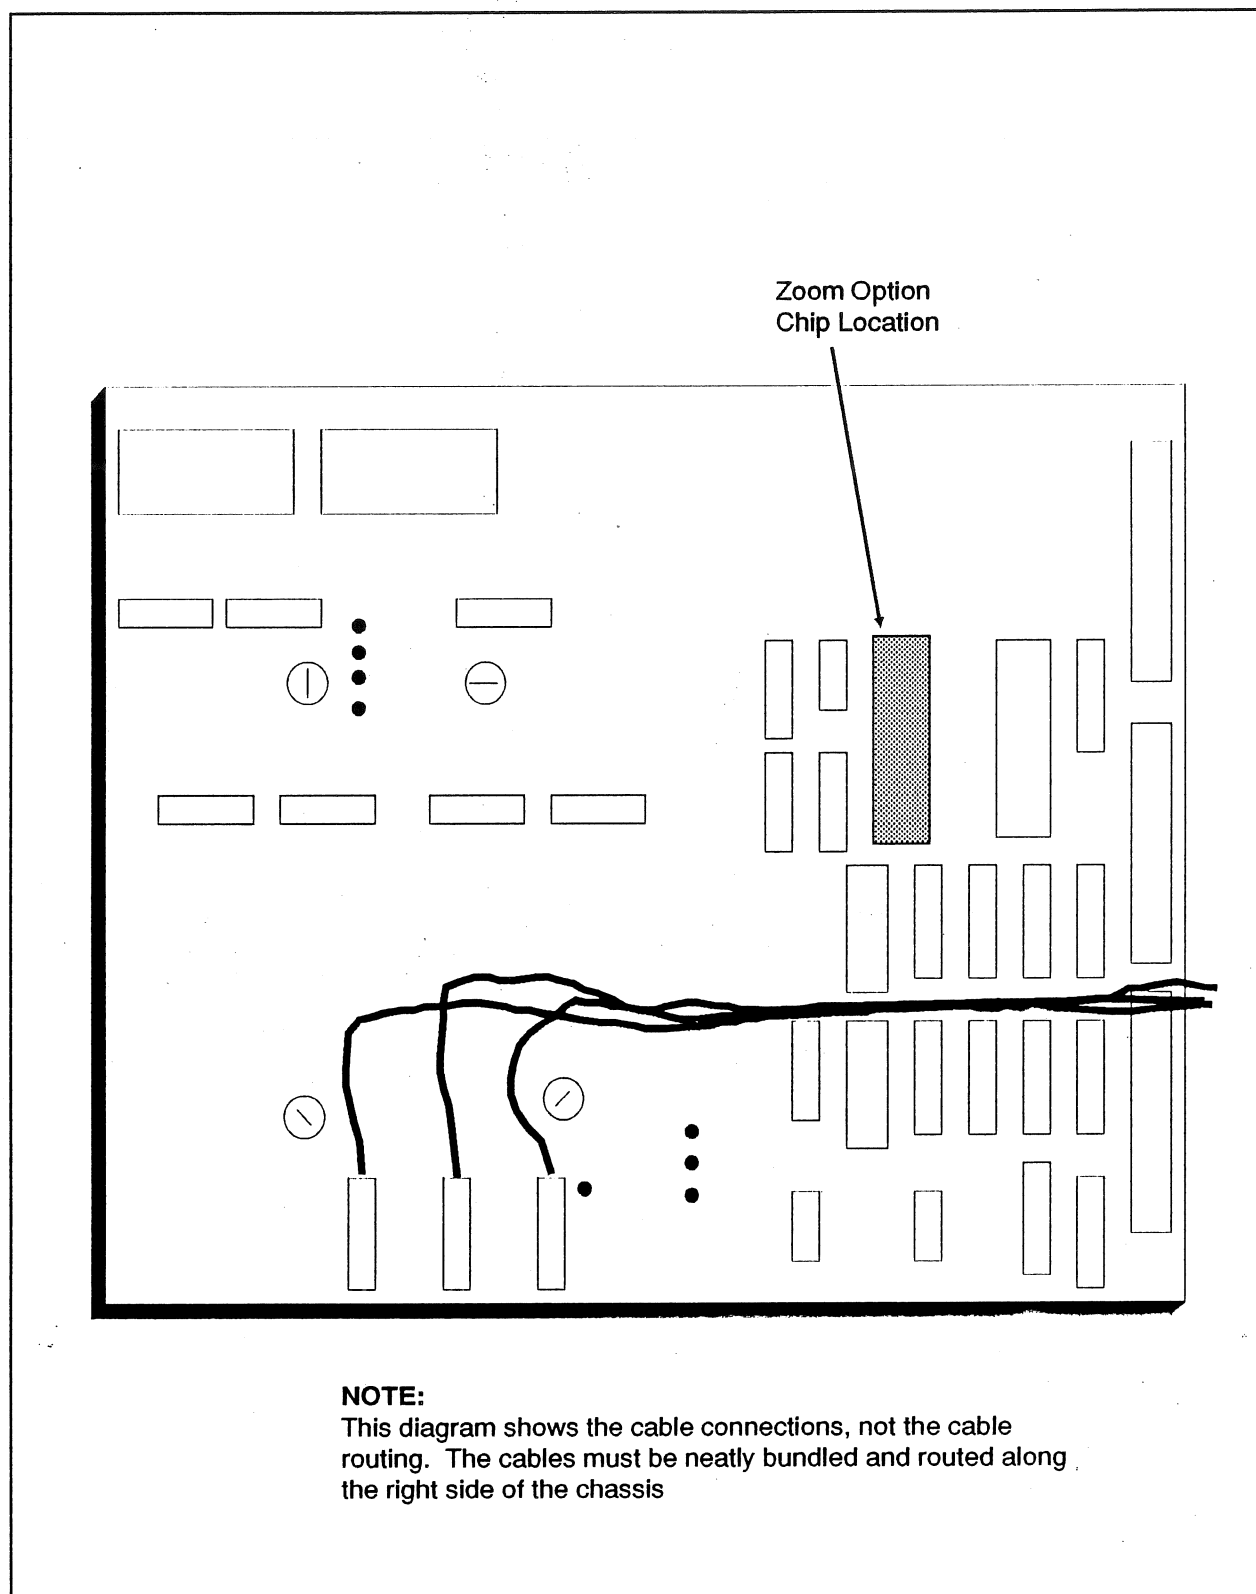

Figure 5-8. Zoom Option Chip Location
- 2** Install the TMS320 chip into the socket on the DFE Board. See Figure 5-8.